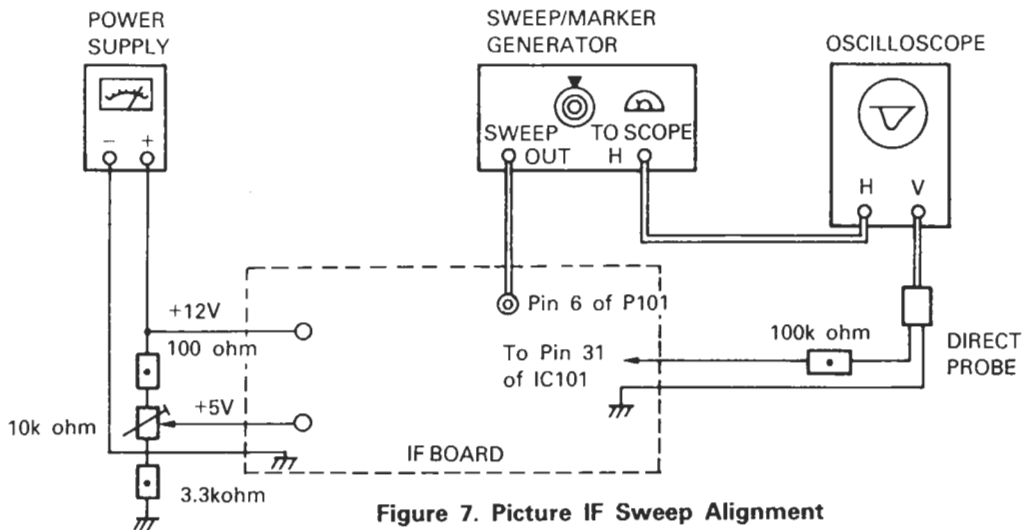

Figure 7. Picture IF Sweep Alignment
- GENERAL ..... Refer to figure 7 for test equipment connection.